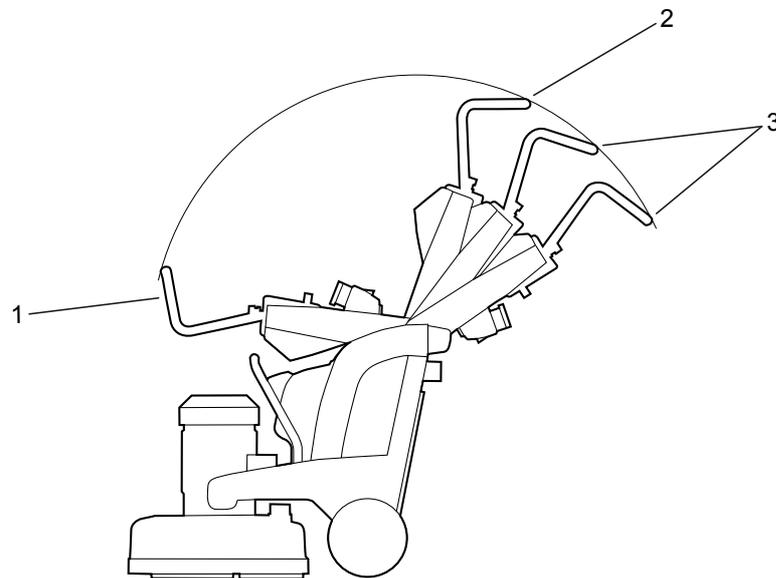

Figure 4-1 Handle settings
1. Set the handle to the rear position - see Figure 4-1 on page 15.